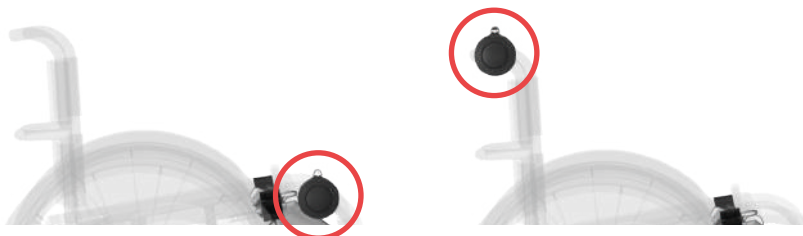

Figure 9
- Locate the most convenient, accessible mounting position where the Controller can be installed (Figure 9).